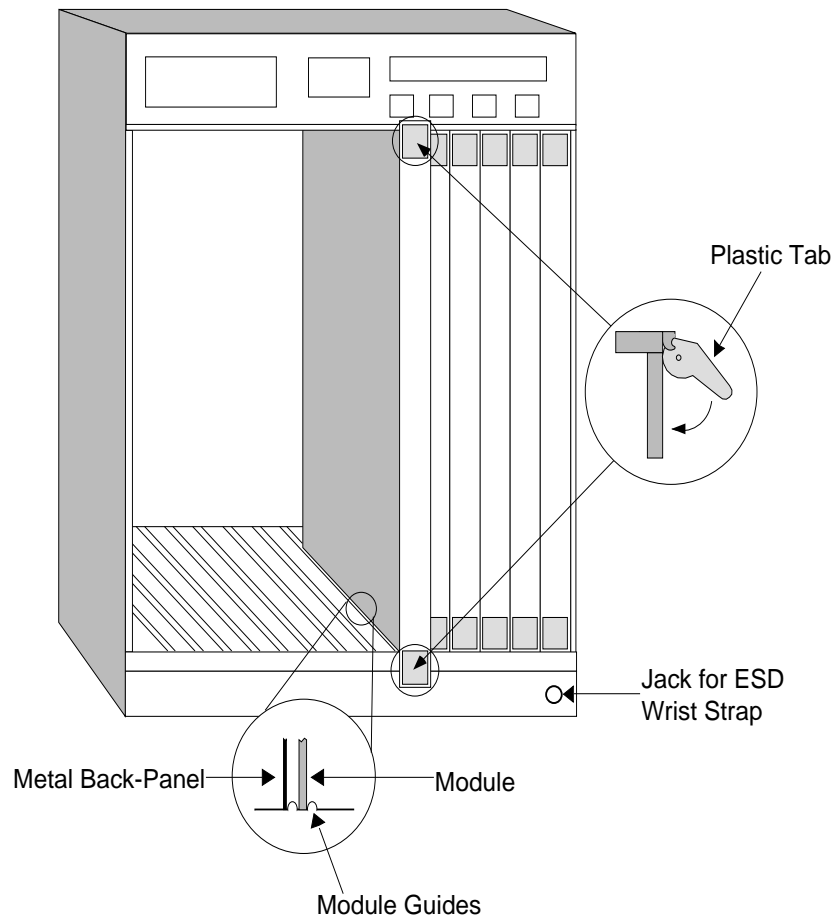

Figure 2-1. Installing the 9E106-06 Module
3. Attach one end of the ESD wrist strap packaged with the SmartSwitch 9000 chassis to your wrist. Plug the other end into the jack for the ESD Wrist Strap in the lower right corner of the SmartSwitch 9000 chassis shown in Figure 2-1.
6. Before installing the 9E106-06 Module into the chassis, ensure that the bottom and top plastic tabs are unlocked. Slide the module into an available slot and ensure that the module is between the module guides, as shown in Figure 2-1. Check both the upper and lower tracks. Take care that the module slides in straight and engages the backplane connectors properly. Lock down the top and bottom plastic tabs at the same time, applying even pressure.